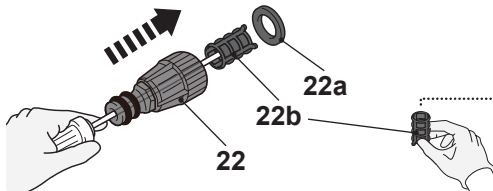

Fig. 40
- > Remove the water hose connector (22) from the water inlet (13).
- > Disassemble the water hose connector (22) (Fig. 40).